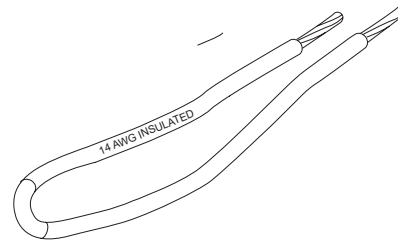
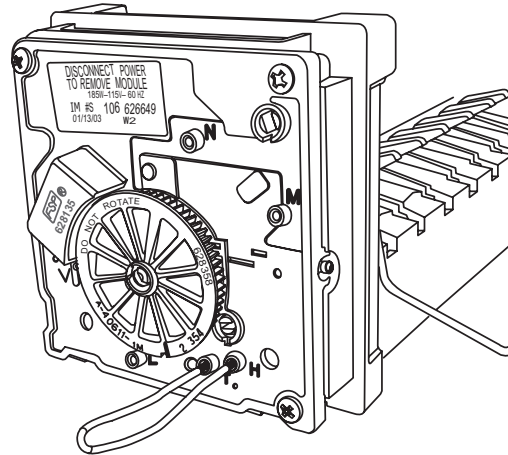
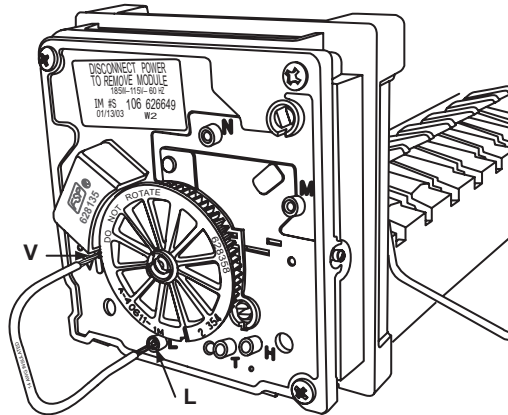

Figure 52. Jumper wire
Figure 53. Cycle testing ice maker
Figure 54. Checking water valve operation
5. Jump terminals T and H. Use a 14 AWG jumper wire with 1/2 inch insulation stripped from ends. Jumper wire is shown in Figure 52. The jumping of T and H is shown in Figure 53.
2. Jump test point V and L. See Figure 54. Use a 14 AWG jumper wire with 1/2 inch insulation stripped from each end (as shown in Figure 52). The solenoid should click and buzz when energized. If the solenoid does not click and buzz, replace the water valve (see page 50).